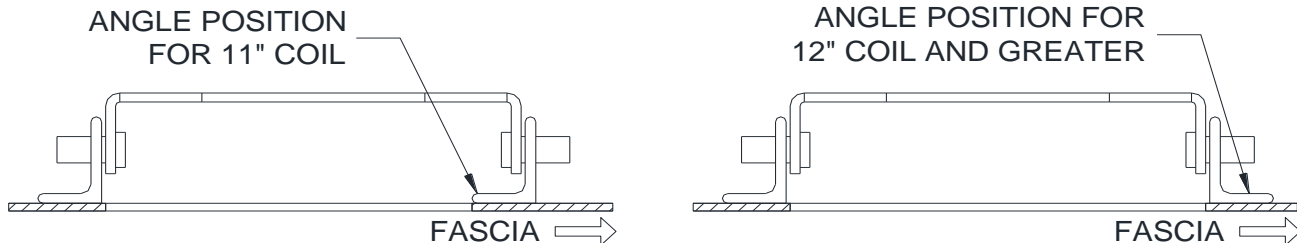

Figure 12.1 – Angle Bracket Kit, Type 5 DMI and 6 DMI
Position the angle bracket kit onto the outside face on the operator bracket as shown in **Figure 12.1**.
The direction of the mounting angle nearest the fascia side depends on the coil size, as shown in **Figure 12.1**. Fasten using the (4) 1/4-20 x 3/4 button head screws, and nuts.